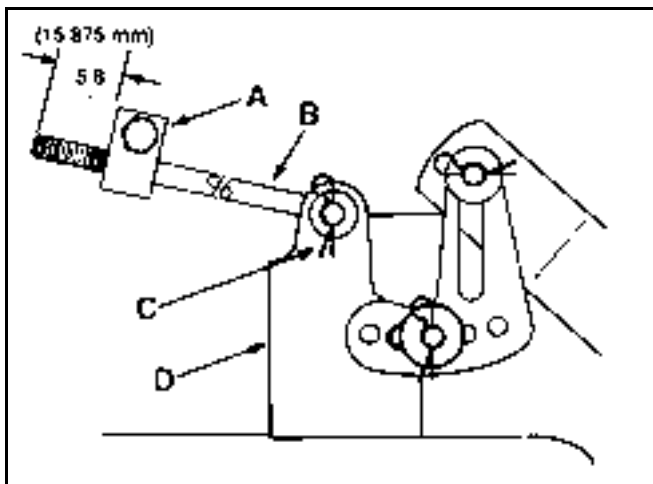

Figure 243
- Measure the length of the rod extending out the front of the adjusting block on the sides of the chassis (Figure 243). If the rod length is not 5/8" (16mm), remove the hairpin cotter and washer from the end of the rod (Figure 243), and turn the rod until the 5/8" (16mm) dimension is obtained. Then install the end of the rod into the hole in the mower mount and secure in place with washer and hairpin cotter. Repeat this procedure on the opposite side of the mower.